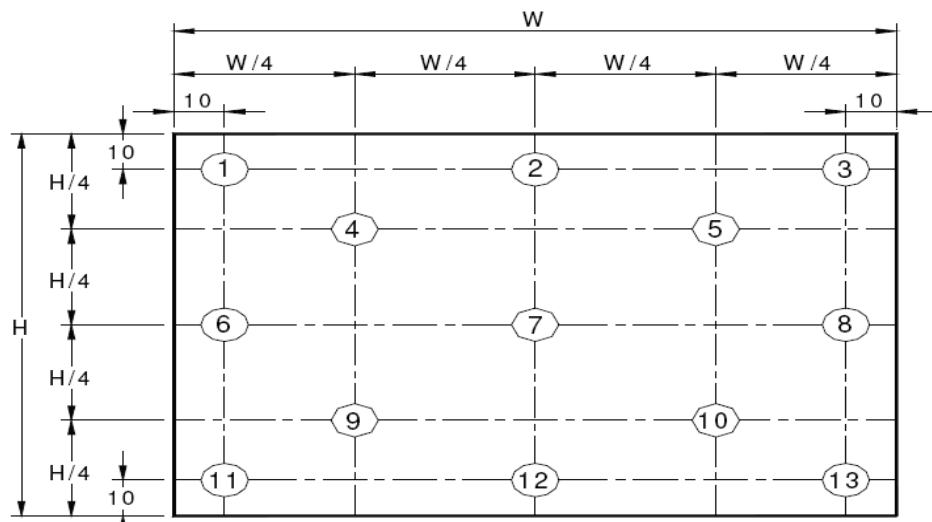

Figure 9. Uniformity Measurement Locations (13 points)
<p>Notes :</p> <ol style="list-style-type: none"> Viewing angle is the angle at which the contrast ratio is greater than 10. The viewing angles are determined for the horizontal or 3, 9 o'clock direction and the vertical or 6, 12 o'clock direction with respect to the optical axis which is normal to the LCD surface (see Figure 7). Contrast measurements shall be made at viewing angle of $\Theta = 0$ and at the center of the LCD surface. Luminance shall be measured with all pixels in the view field set first to white, then to the dark (black) state . (see Figure 7) Luminance Contrast Ratio (CR) is defined mathematically. $CR = \frac{\text{Luminance when displaying a white raster}}{\text{Luminance when displaying a black raster}}$ Center Luminance of white is defined as luminance values of 5 point average across the LCD surface. Luminance shall be measured with all pixels in the view field set first to white. This measurement shall be taken at the locations shown in Figure 8 for a total of the measurements per display. The White luminance uniformity on LCD surface is then expressed as : $\Delta Y = \text{Minimum Luminance of 5(or 13) points} / \text{Maximum Luminance of 5(or 13) points.}$(see Figure 8 and Figure 9). The color chromaticity coordinates specified in Table 5 shall be calculated from the spectral data measured with all pixels first in red, green, blue and white. Measurements shall be made at the center of the panel. The electro-optical response time measurements shall be made as Figure 10 by switching the “data” input signal ON and OFF. The times needed for the luminance to change from 10% to 90% is T_r, and 90% to 10% is T_f. Cross-Talk of one area of the LCD surface by another shall be measured by comparing the luminance (YA) of a 10 ± 1mm diameter area, with all display pixels set to gray 127(of 0 to 255), to the luminance (YB) of that same area when any adjacent area is driven dark.The luminance ratio shall not exceed 1:1.05 (See Figure 11).
The White luminance uniformity on LCD surface is then expressed as : $\Delta Y5$ = Minimum Luminance of five points / Maximum Luminance of five points (see Figure 8) , $\Delta Y13$ = Minimum Luminance of 13 points /Maximum Luminance of 13 points (see Figure 9).